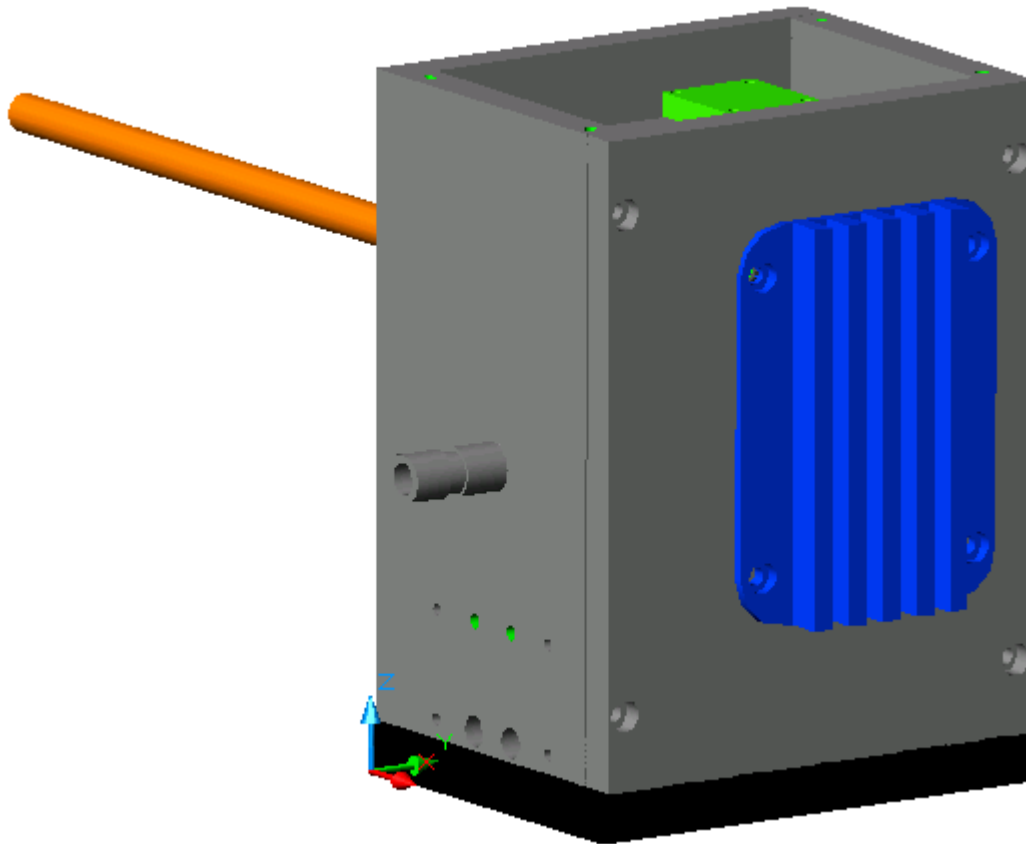

Figure 38. Cold sink and pad mounted to side B temperature shield and peltier cooler.
**STEP 18:** The second peltier cooler, Temperature Shield Side B (drawing #15), cold sink pad, and cold sink mount to the other side of the modulator in the same fashion (see steps 15-17 and figure 38).